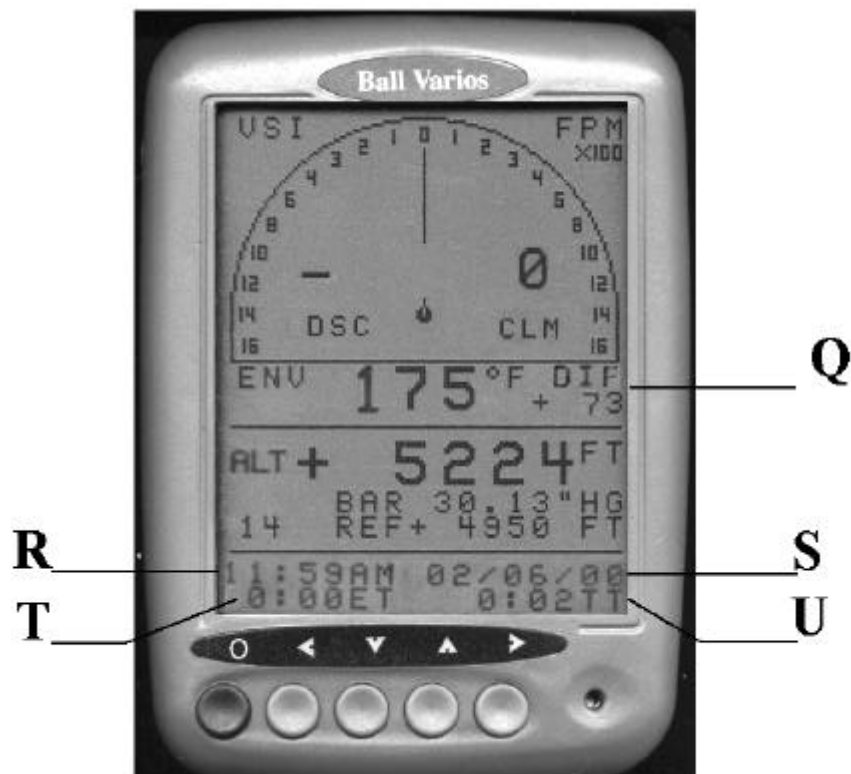

Figure 3
The right (▶) button turns on the cursor and toggles the cursor between ALT, BAR, and REF (it also turns on the date and clock lines (R), (S), (T), and (U) in figure 3).